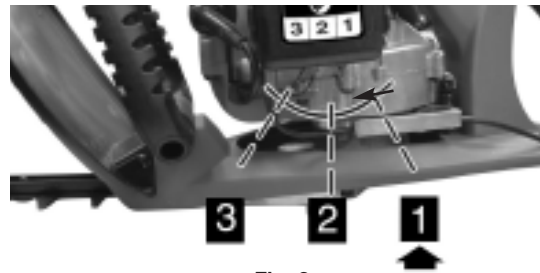

Fig. 2
2. Your unit is designed with a 3 position choke: FULL CHOKE "1", PARTIAL CHOKE "2", and RUN "3". Move choke lever to FULL CHOKE "1" position. (Figure 2)